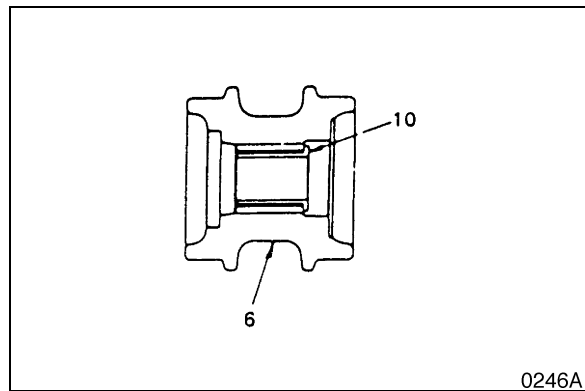

Figure 45
1. Degrease, clean and dry all parts before reassembly. Insert bushing (10, Figure 45) into the roller (6).